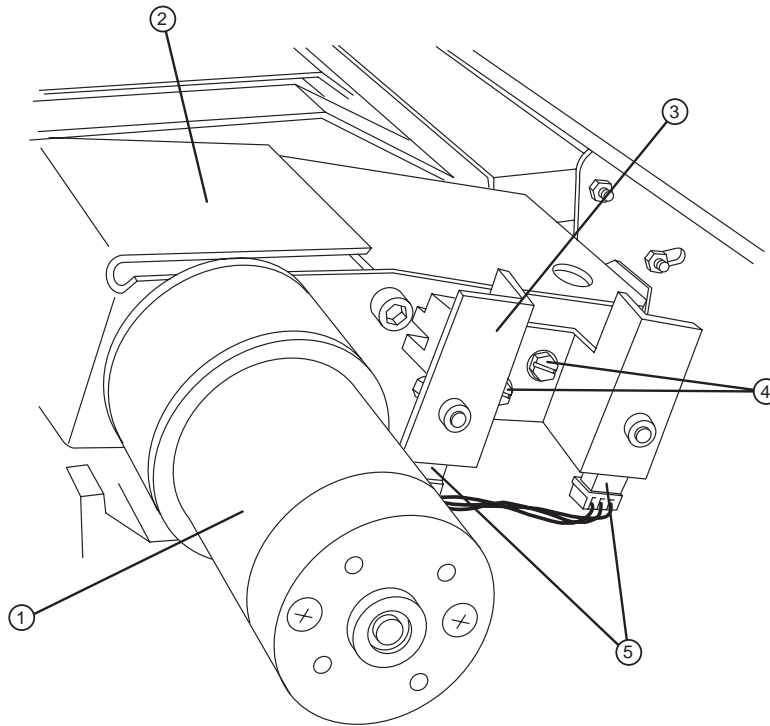

Figure 4-8 Shuttle light and heavy sensor assembly.
1. Using a flathead screwdriver, remove the two (2) mounting screws. Refer to Figure 4-8.
- ①—Bridge shuttle motor. ②—Cover. ③—Shuttle light and heavy sensor assembly.
④—Two mounting screws. ⑤—Two sensor assembly connectors.
2. Remove the two (2) sensor connectors. Refer to Figure 4-8.